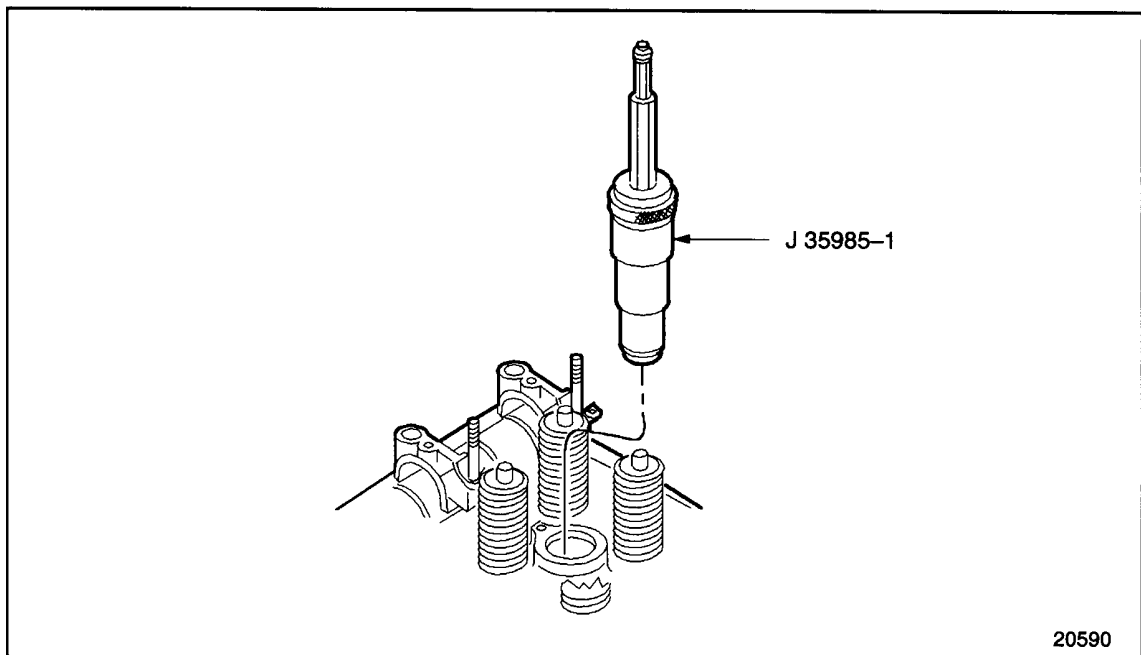

Figure 29-3 **Test Adaptor**
8. Place three compression test adaptors J 38768 into the injectors holes. See Figure 29-3.